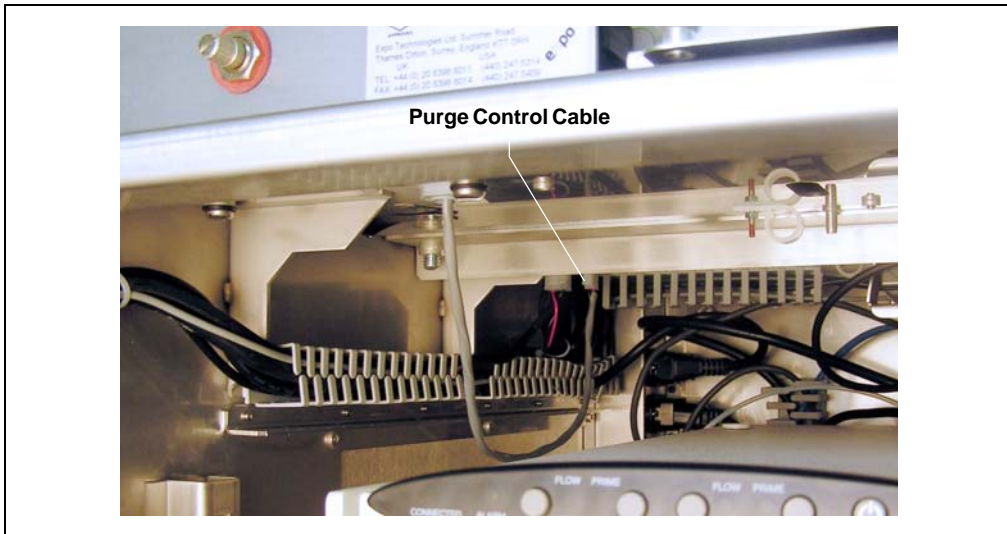

Figure D-9. AE Interior: Purge Control Cable Connection
12. Inside the AE, locate the connectors on the top left side. Remove the jumper from the second connector from the left (see Figure D-9). To remove the jumper, squeeze the front of the jumper and pull down.
13. Plug the purge control cable into the connector where the jumper was removed (see Figure D-9).